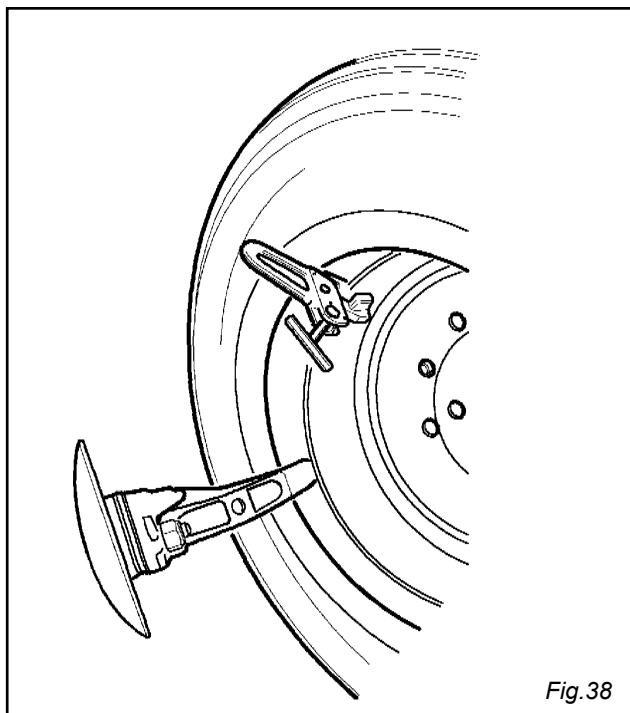

Fig.38
19) Lift the tire again and attach the g-clamp outside the second bead about 8 inches (20 cm) to the right of the valve (Fig. 38).